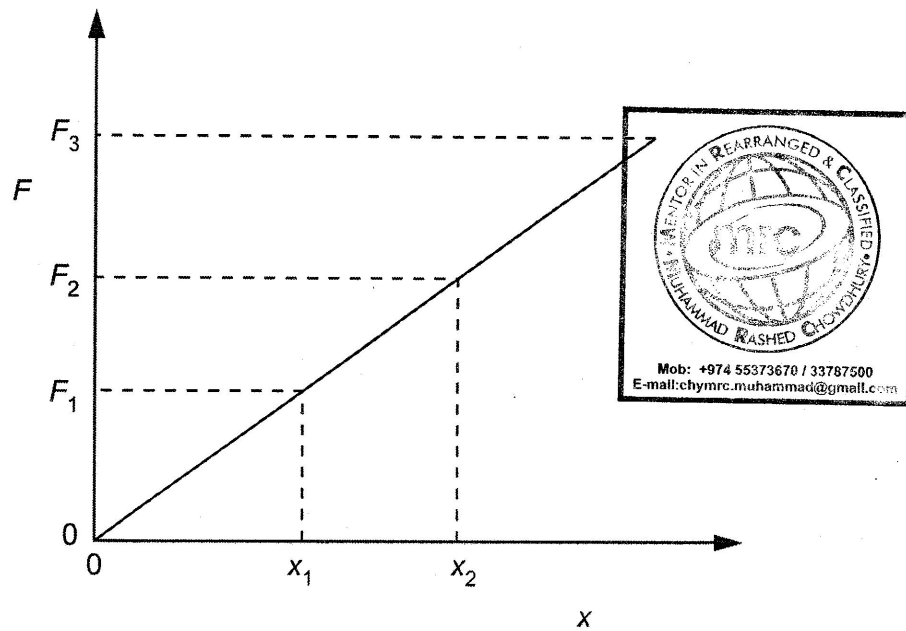

Fig. 5.1
- 3.7 Fig. 5.1 shows the variation with force  $F$  of the extension  $x$  of a spring as the force is increased to  $F_3$  and then decreased to zero.